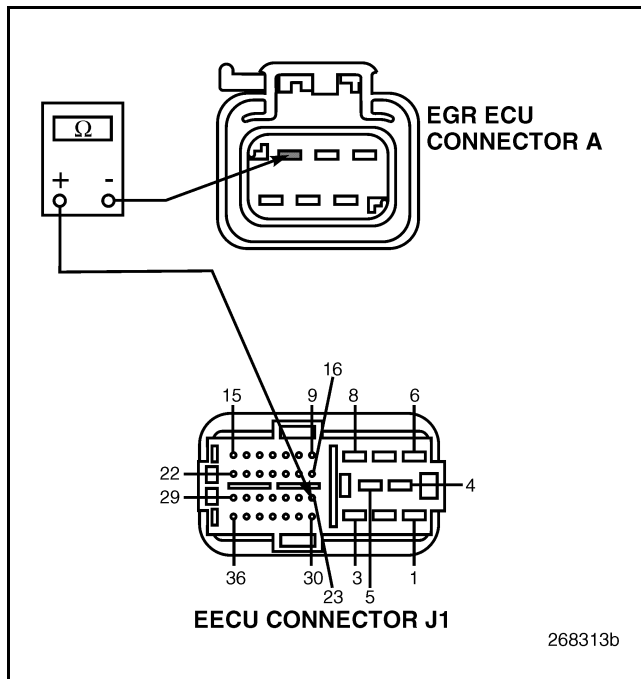

Figure 593
4. Measure the resistance between EECU connector J1 pin 23 and EGR ECU connector A pin 3 (see Figure 593).